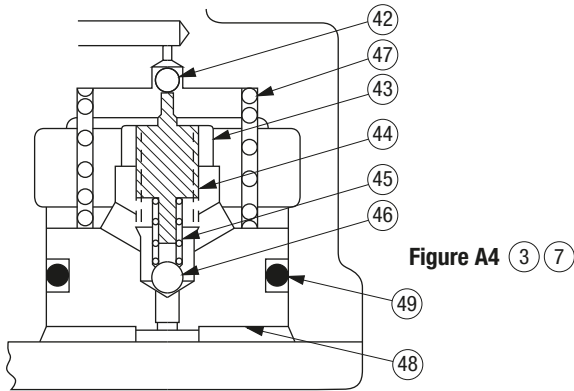

Figure A4 ③ ⑦
Low-pressure relief valve is set too low.	See Low-Pressure Relief Setting, Figure A4 in the Repairs section of this manual.
The pilot piston does not advance freely.	See Hydraulic Schematic (7). See Low-Pressure Relief Setting, Figure A4 in the Repairs section of this manual. Clean and inspect items 42-49. Replace parts as necessary.
Refer to Figure A4. Lightly bottom the stem (44) on the ball (46). Then, back out the stem 3-1/2 turns. Tighten nut (43). The resulting pressure setting should be approximately 19 bar (280 psi).